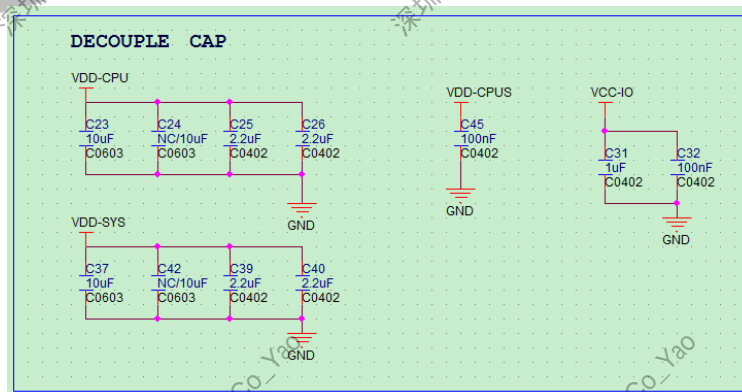

Figure 2-15 SoC Filter Capacitors
- The filter capacitor of SoC cannot delete and must design by strictly following the schematic design of the standard case, or else it will affect the stability of the system. As shown in Figure 2-15.